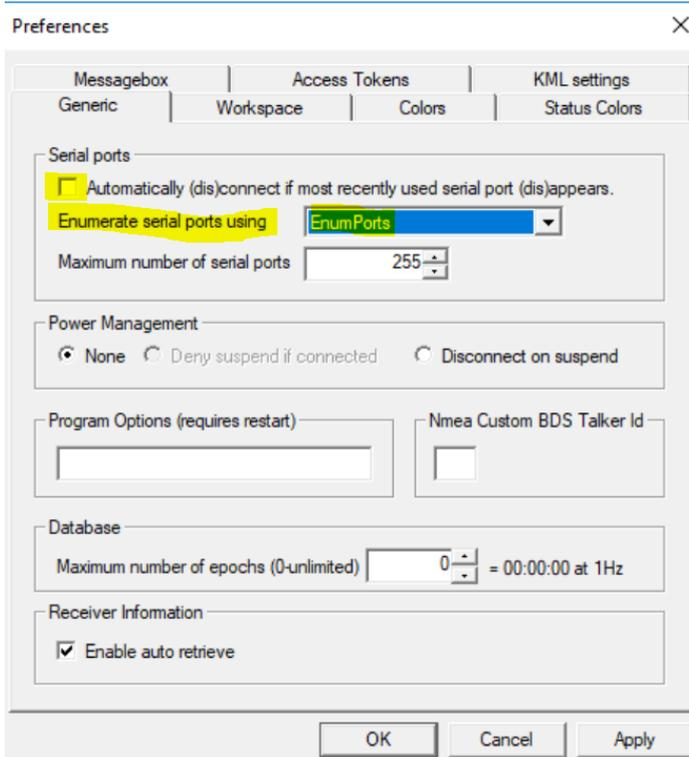

Figure 24: u-center COM port enumeration
- After selecting the client port (outgoing port) in u-center, C099-F9P will be automatically requested to open a data stream between ZED-F9P and the Bluetooth COM port. Note that u-center has default COM port behavior resulting in connection failures or non-listed outgoing Bluetooth COM ports. As a workaround, it is recommended to change the default COM port enumeration in u-center as shown in Figure 24.